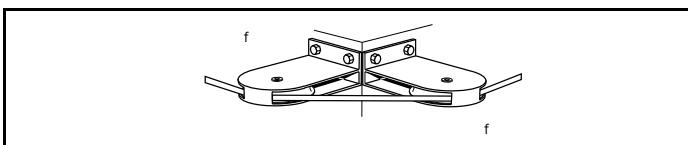

Fig. 3: Guiding the rope round a corner
- If the rope goes round a corner, mount a pulley wheel f either side of the corner (Fig. 3).